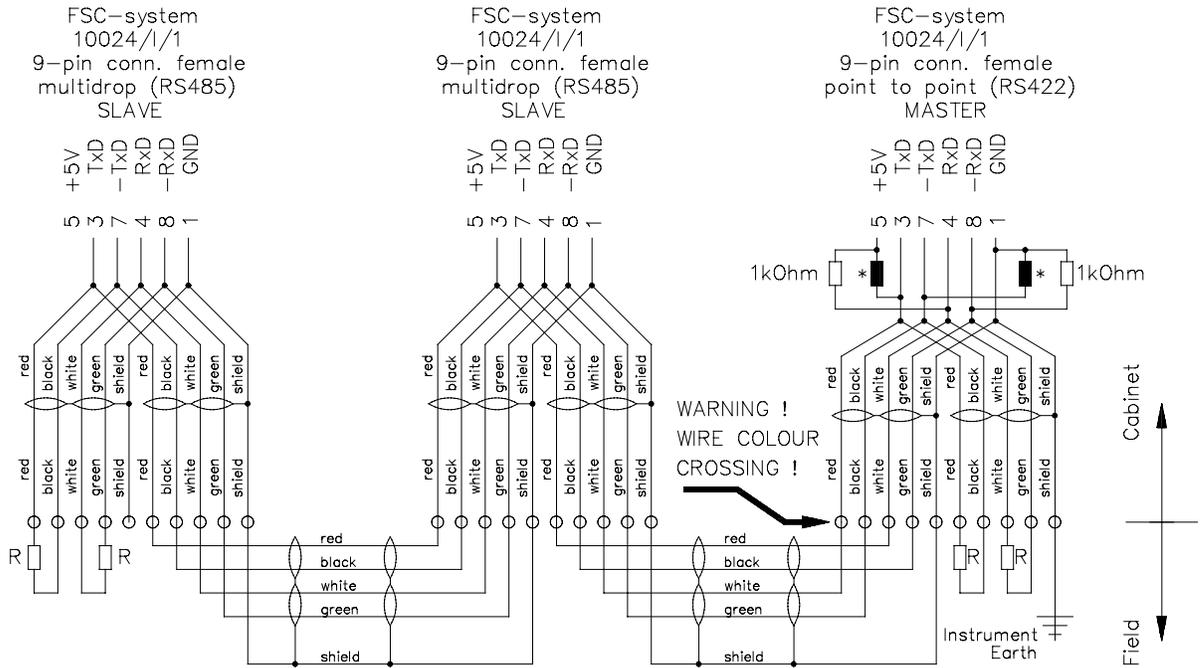

Figure 12 Connection between FSC master and max. 15 FSC slaves: multidrop RS-485 link (using an I-interface)
- Multidrop, duplex (between master and max. 15 slaves) (see Figure 12)